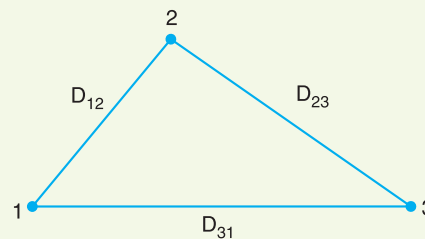

Fig. 9.12
**Solution.** Fig. 9.12 shows three conductors of a 3-phase line placed at the corners of a triangle of sides  $D_{12} = 2$  m,  $D_{23} = 2.5$  m and  $D_{31} = 4.5$  m. The conductor radius  $r = 1.24/2 = 0.62$  cm.